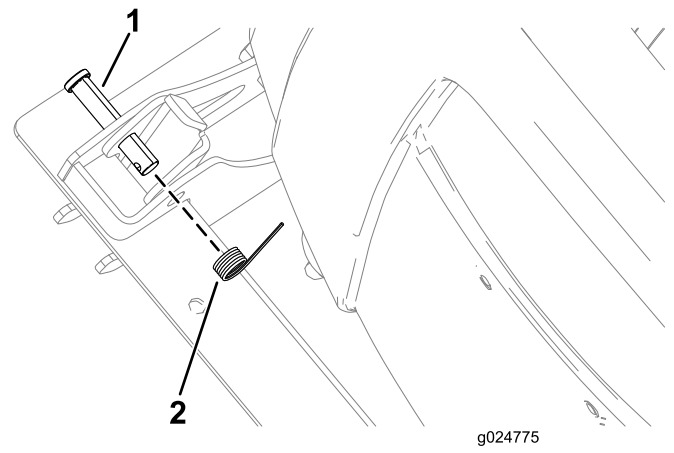

Figure 59
7. Install the spring onto the clevis pin (Figure 59).